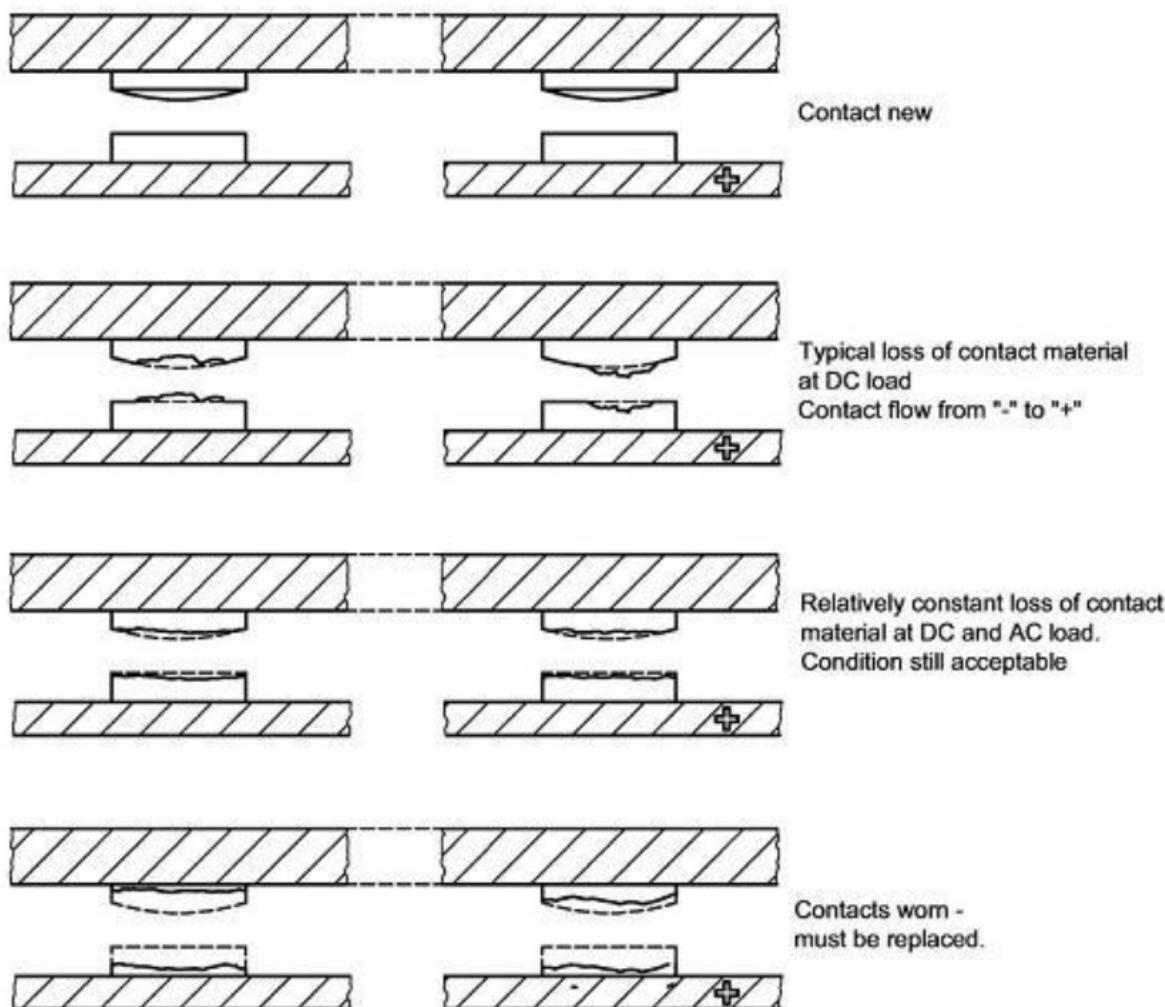

Figure 4-1: Line Contactor Wear
- (1) Remove the four M8 bolts and washers (two on top and two at the bottom) at the left side of the contactor securing the connection to the bus bars at the top and bottom of the arc chute.
- (2) Squeeze together the black plastic release buttons on the front of the arc chute and turn down the four locking levers one by one. The locking bars will pop up at the release button. Remove the arc chute.
- c. As seen in Figure 4-1, check the stationary and movable contacts for wear. The thickness of the new contacts is 1.5 mm (0.059 inch). When any of the contacts wear down to 0.45 mm (0.018 inch), all of the contacts need to be replaced (replace the bridge and both stationary contacts in the arc chute).